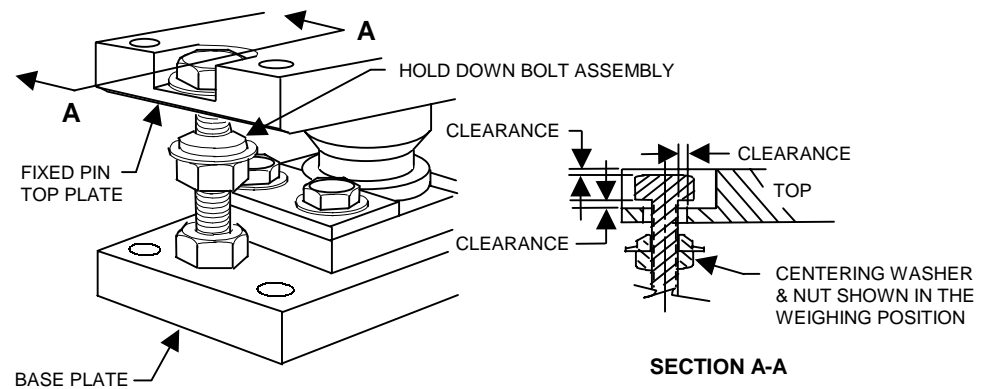

Figure 3-11: Flexmount HD Hold-Down Bolt Assembly
8. After all the top plates are down and applying load to the load cells, make sure there is adequate clearance between the hold-down bolt and top plate. See Figure 3-11, Hold-Down Bolt Assemblies.